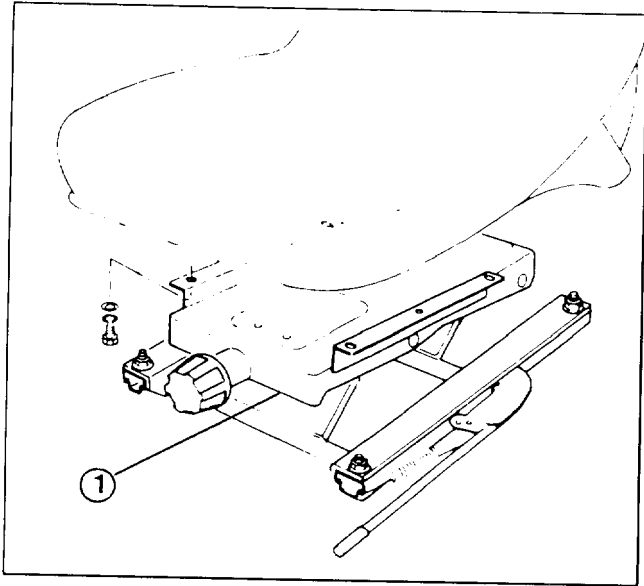

Figure 6
4. Secure seat suspension to seat mounting plate with (4) flange locknuts (Fig. 6).
5. Mount seat to seat suspension with (4) capscrews, lockwashers and flatwashers (Fig. 6 & 7).